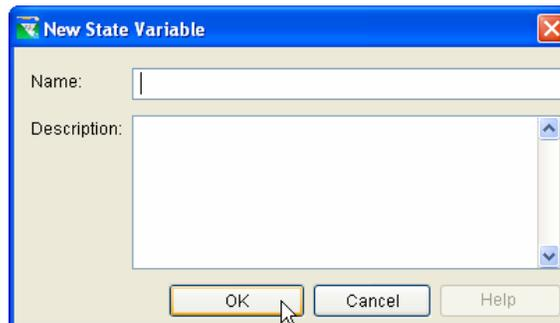

Figure 11.121 Naming of New State Variable
- Enter a **Name** and an optional **Description** in the “New State Variable” dialog (Figure 11.121) and press **OK**.